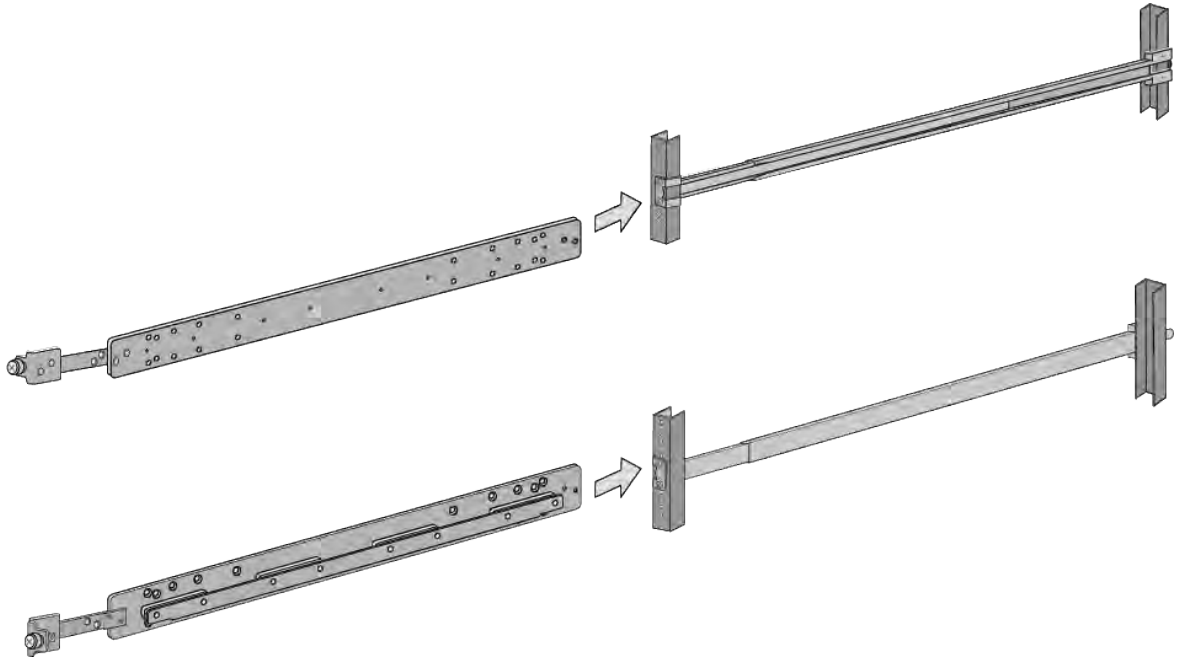

Figure 83. Testing the Inner Rails with the Extension Brackets
4. To test the lengths of the extension brackets, slide the inner rails into the outer rails in the equipment rack. Refer to Figure 83.